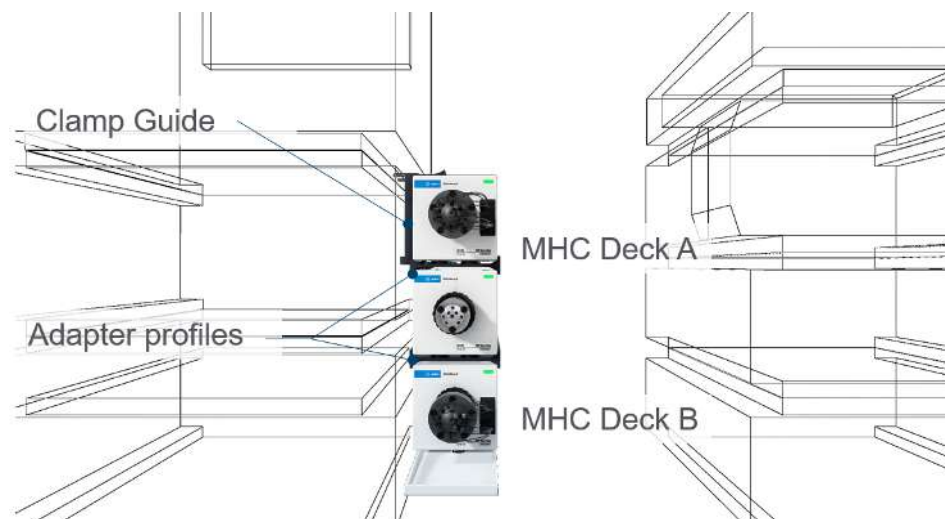

Figure 44: Schematic of the installation and attachments of the Bio 2D-LC valve and optionally the MHC decks
- 4 Attach the adapter-profile on each of the other external valve drives and mount them according to the positions shown in Figure 44 on page 91.